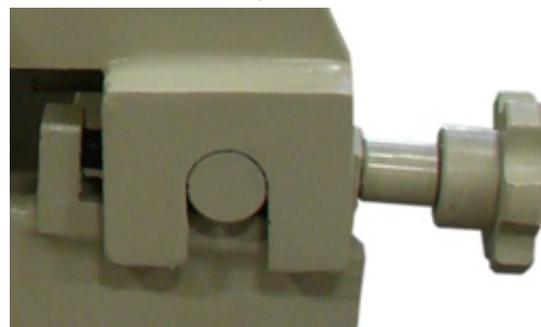

Figure:7-5
2. Rotate the setback knobs counterclockwise (**ccw**) to move the fingers toward the edge of the clamp block or clockwise (**cw**) to move it back. (fig. 7-5)